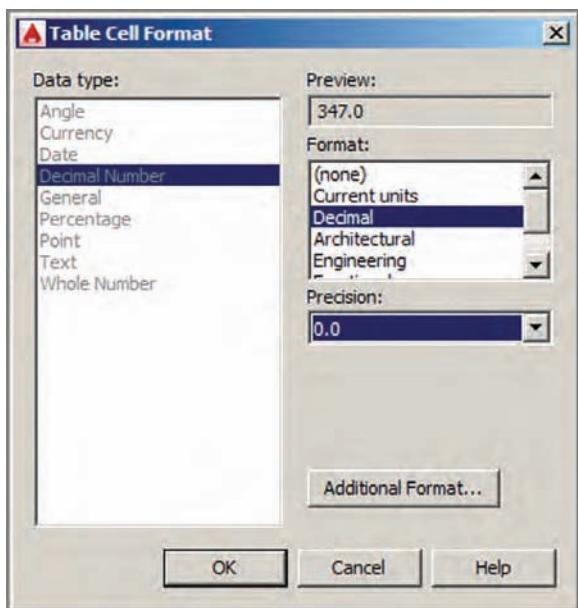

FIGURE 15.28 Formatting a range of cells
6. Select Decimal in the Format list in the Table Cell Format dialog box. Open the Precision drop-down menu and select 0.0 (see Figure 15.28). Click OK.